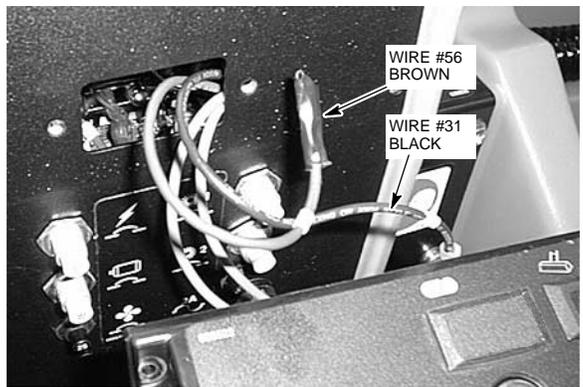

Fig. 5
9. Locate pump accessory wires #56 brown and #31 black as shown (Fig. 5). The wires have black tape covering the terminals. Remove tape from terminals. *NOTE: If machine is equipped with ES™ option, wire #31 black will be connected to the negative standoff stud inside the accessory console, DO NOT disconnect.*